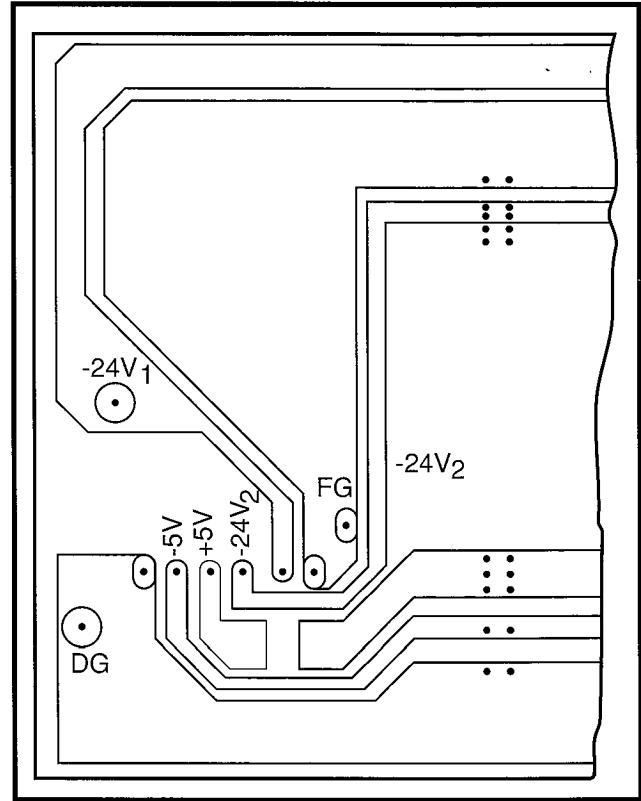

FIGURE 5-5—LOWER LEFT OF DK24, BACKPLANE PCB (PMB-824)
- 3) On the lower left side of the backplane PCB (PMB-824), the test points for the various voltages are marked. Refer to Figure 5-5.